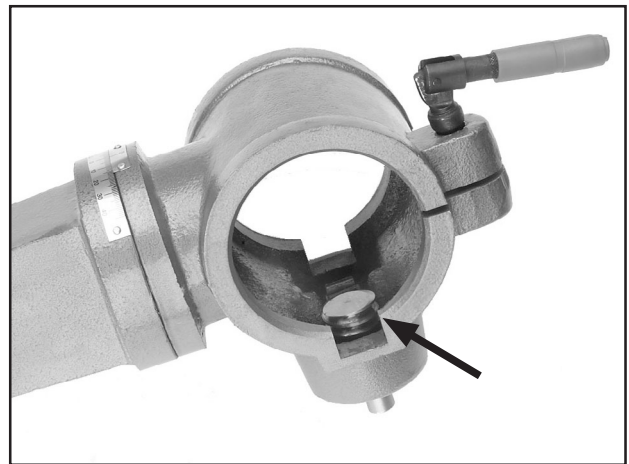

Figure 7. Pinion correctly installed in table support.
1. Place the pinion in the table support, as shown in **Figure 7**, so the pinion and gear teeth mesh together.